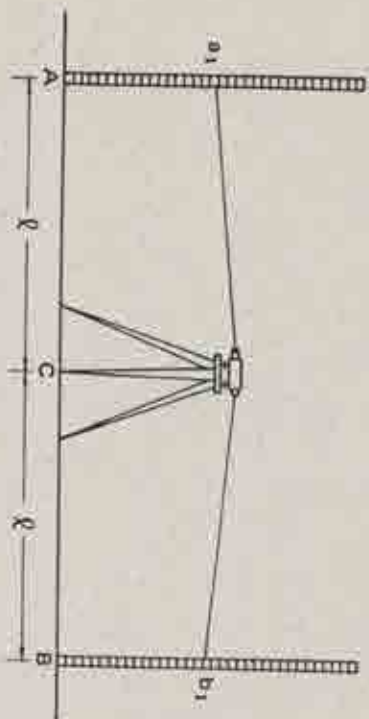

Fig. 14
- (1) Set the staves at points A and B spaced about 30~40 m apart, and set the instrument approximately halfway C between points A and B.
- (2) Take the reading a_1 on the staff at point A (backsight), and then take the reading b_1 on the staff at point B (foresight) (Fig. 14).